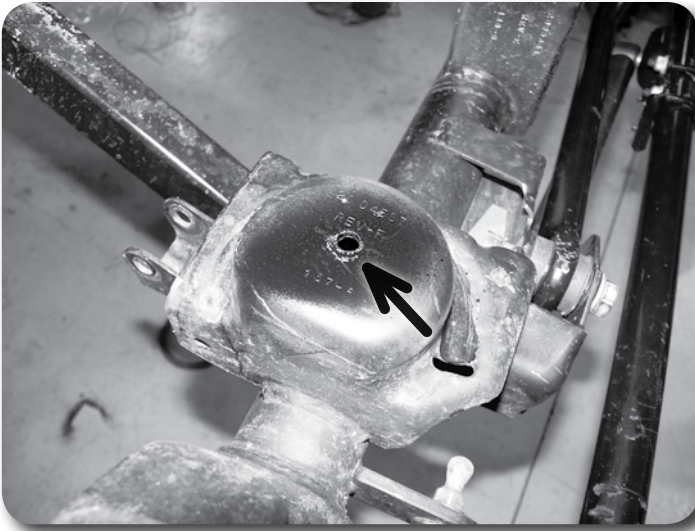

Figure 2
11. Make a mark in the center of the lower coil spring mount pad. Drill a 5/16" hole at the mark (Figure 2). Using the provided 3/8" x 1" self-tapping bolt, tap the hole and remove the bolt. This hole will be used to attach the provided bump stop extension to the axle after the coil spring is installed.